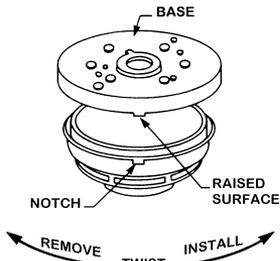

Figure 3
- Align notch in detector cover to raised surface on outer ring of base (See Figure 3).